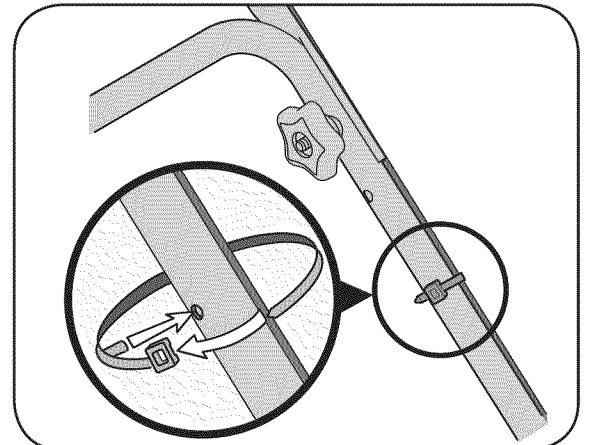

Figure 3-4: Use cable ties to secure cables to lower handle.
5. Secure cables to the lower handle with the cable ties already on the lower handle, Figure 3-4. Insert peg on cable tie into the hole on the lower handle. Pull cable ties tight and cut off excess.